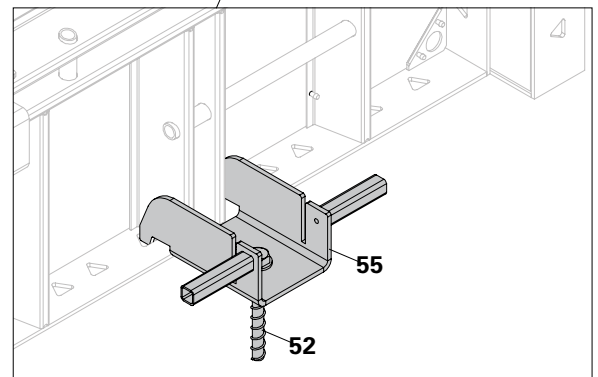

Fig. A4.20
1. When panels are arranged vertically, install the frame holder HSA (55) at vertical strut location of the panel.
2. When panels are arranged horizontally, install the frame holder HSA (55) at anchor strut locations of the panel. (Fig. A4.20)